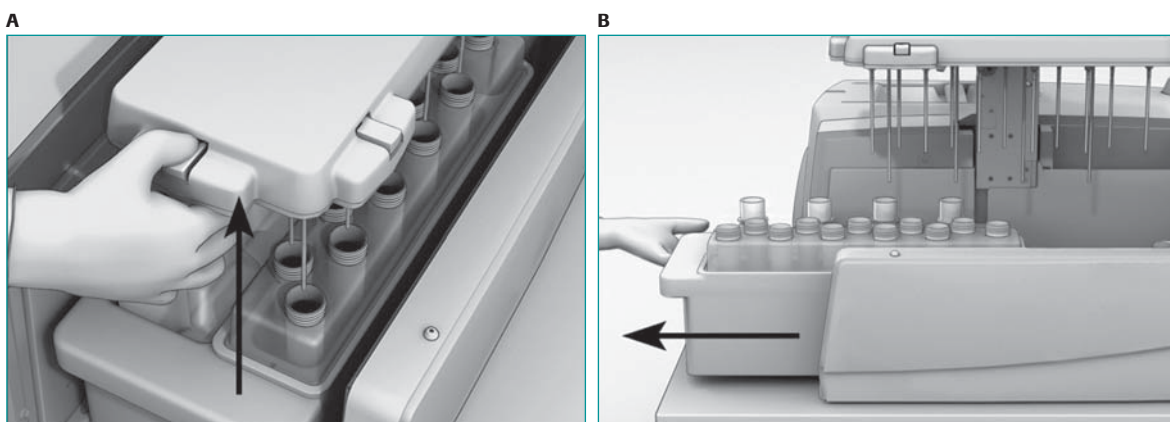

Figure 3–2: Removing the Reagents cassette
- 3 Using the rotate button (button **B**), rotate the sipper manifold (Figure 3–3A). Be sure to hold the sipper manifold securely while rotating it, as it is counter-weighted. The underside of the sipper manifold holds 11 short, filtered Sipper Tubes on the right hand side and 4 longer Sipper Tubes on the left hand side (Figure 3–3B).